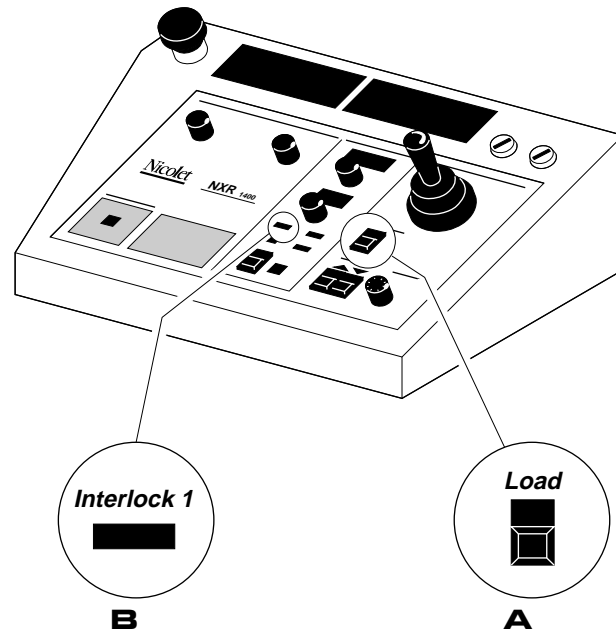

Figure 3
1. If necessary, press the **Load** button (Figure 3-A) to automatically move the sample tray to the front left of the sample compartment.
2. Open the sample compartment's door and place the sample on the sample tray. The **Interlock 1** LED (Figure 3-B) blinks whenever the compartment door is open.
3. Close the compartment door. The **Interlock 1** LED (Figure 3-B) should now be on, but not blinking. If it is blinking, the door is not securely closed.